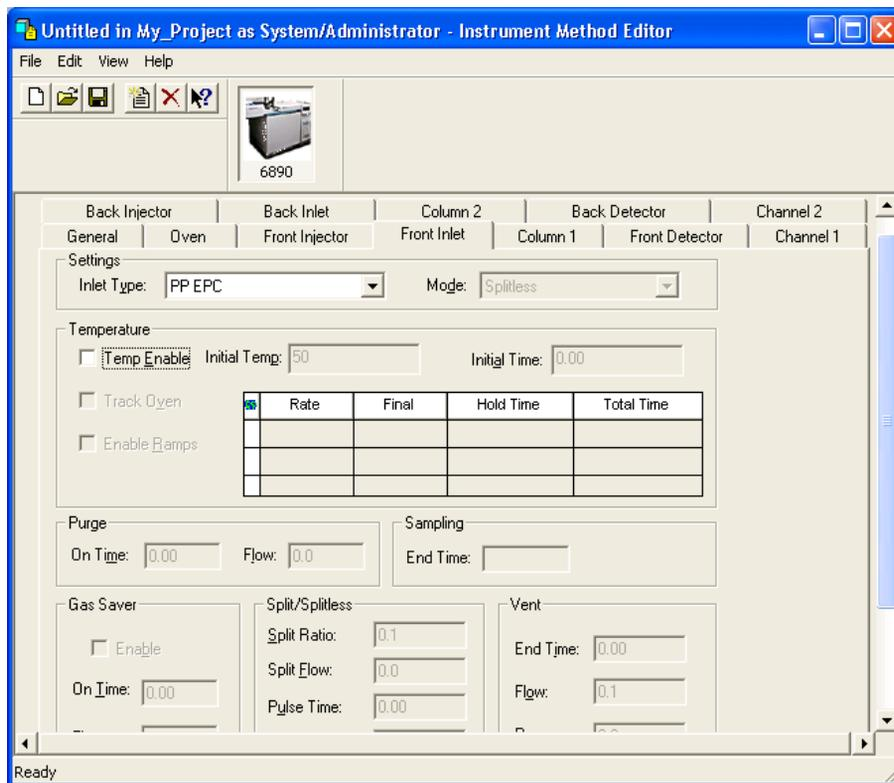

Figure 3-7 Instrument Method Editor, 6890, Front Inlet Tab
6. Click the **Front Inlet** tab. The Front Inlet tab appears (Figure 3-7).